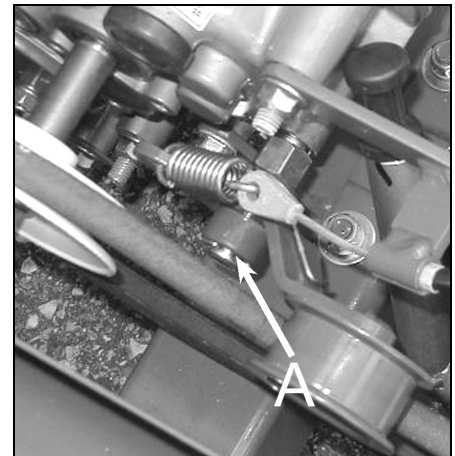

Figure 20
Fulcrum of travel Tension Arm (figure 20, see A)
2. Loosen the lock nut on the brake wire. (E, figure 20)
3. Turn the adjust nut (F, figure 20) and adjust the tension of the brake wire as follow : Turn the adjusting nut up direction if the brake is loose, in opposite direction if too tight.